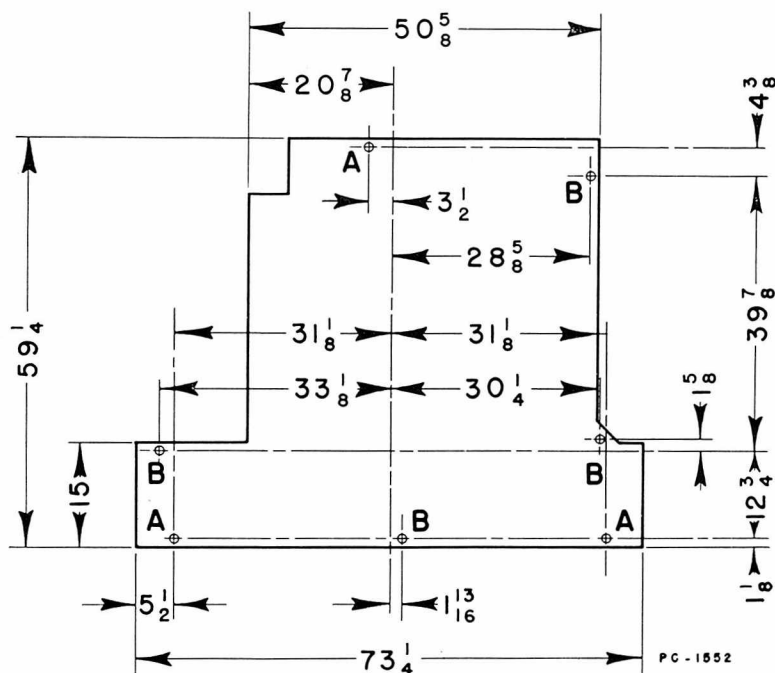

Figure 5
3. Adjust the leveling screws indicated by the letter "A" at the front and rear of the bed (Figures 5 to 8). Adjust these screws slowly and evenly until the leveling instrument indicates absolutely level both lengthwise and across at both ends of the bed.